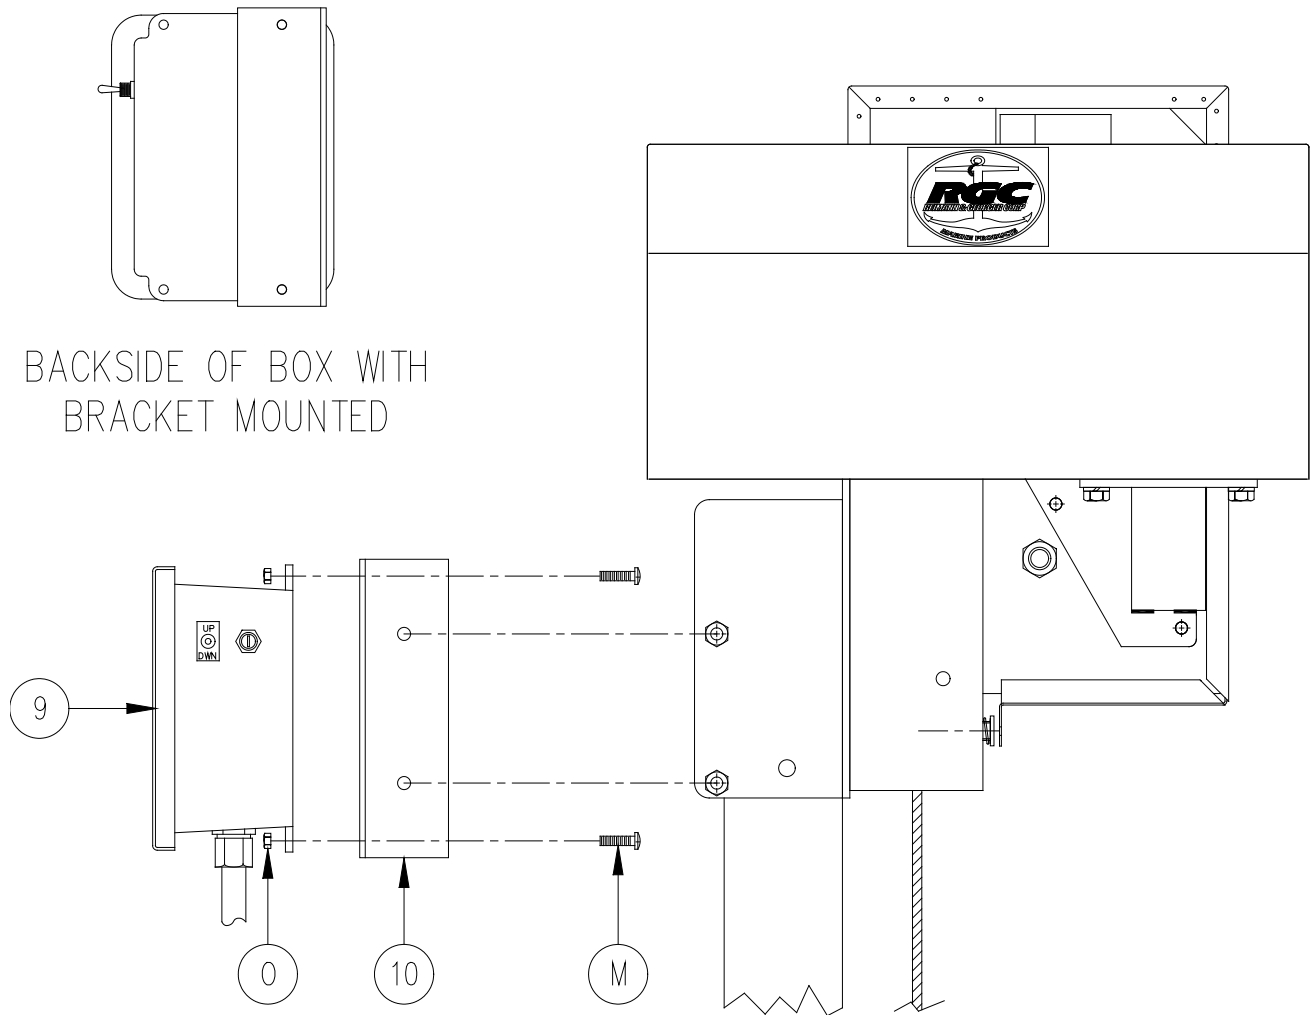

Figure 3-5
1. Refer to Figure 3-5. Mount the RC control box onto the winch bracket using mounting bracket (10).